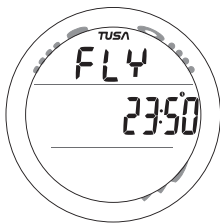

Fig. 60 - TIME TO FLY
**Time to Fly**, information includes (Fig. 60):